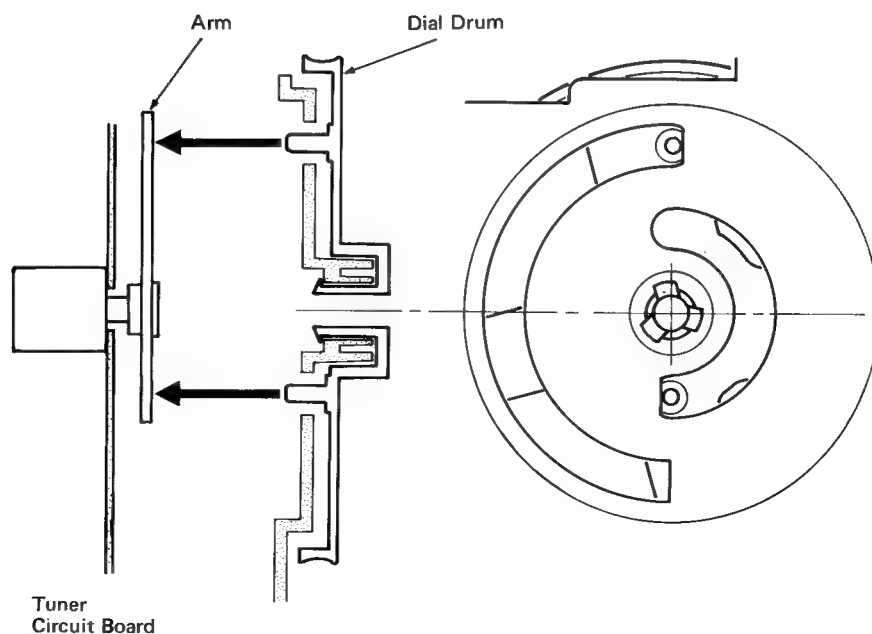

Fig. 30
- Mount the tuner circuit board on the chassis by fitting two slits of the arm to the projections of the dial drum as shown in Fig. 30.